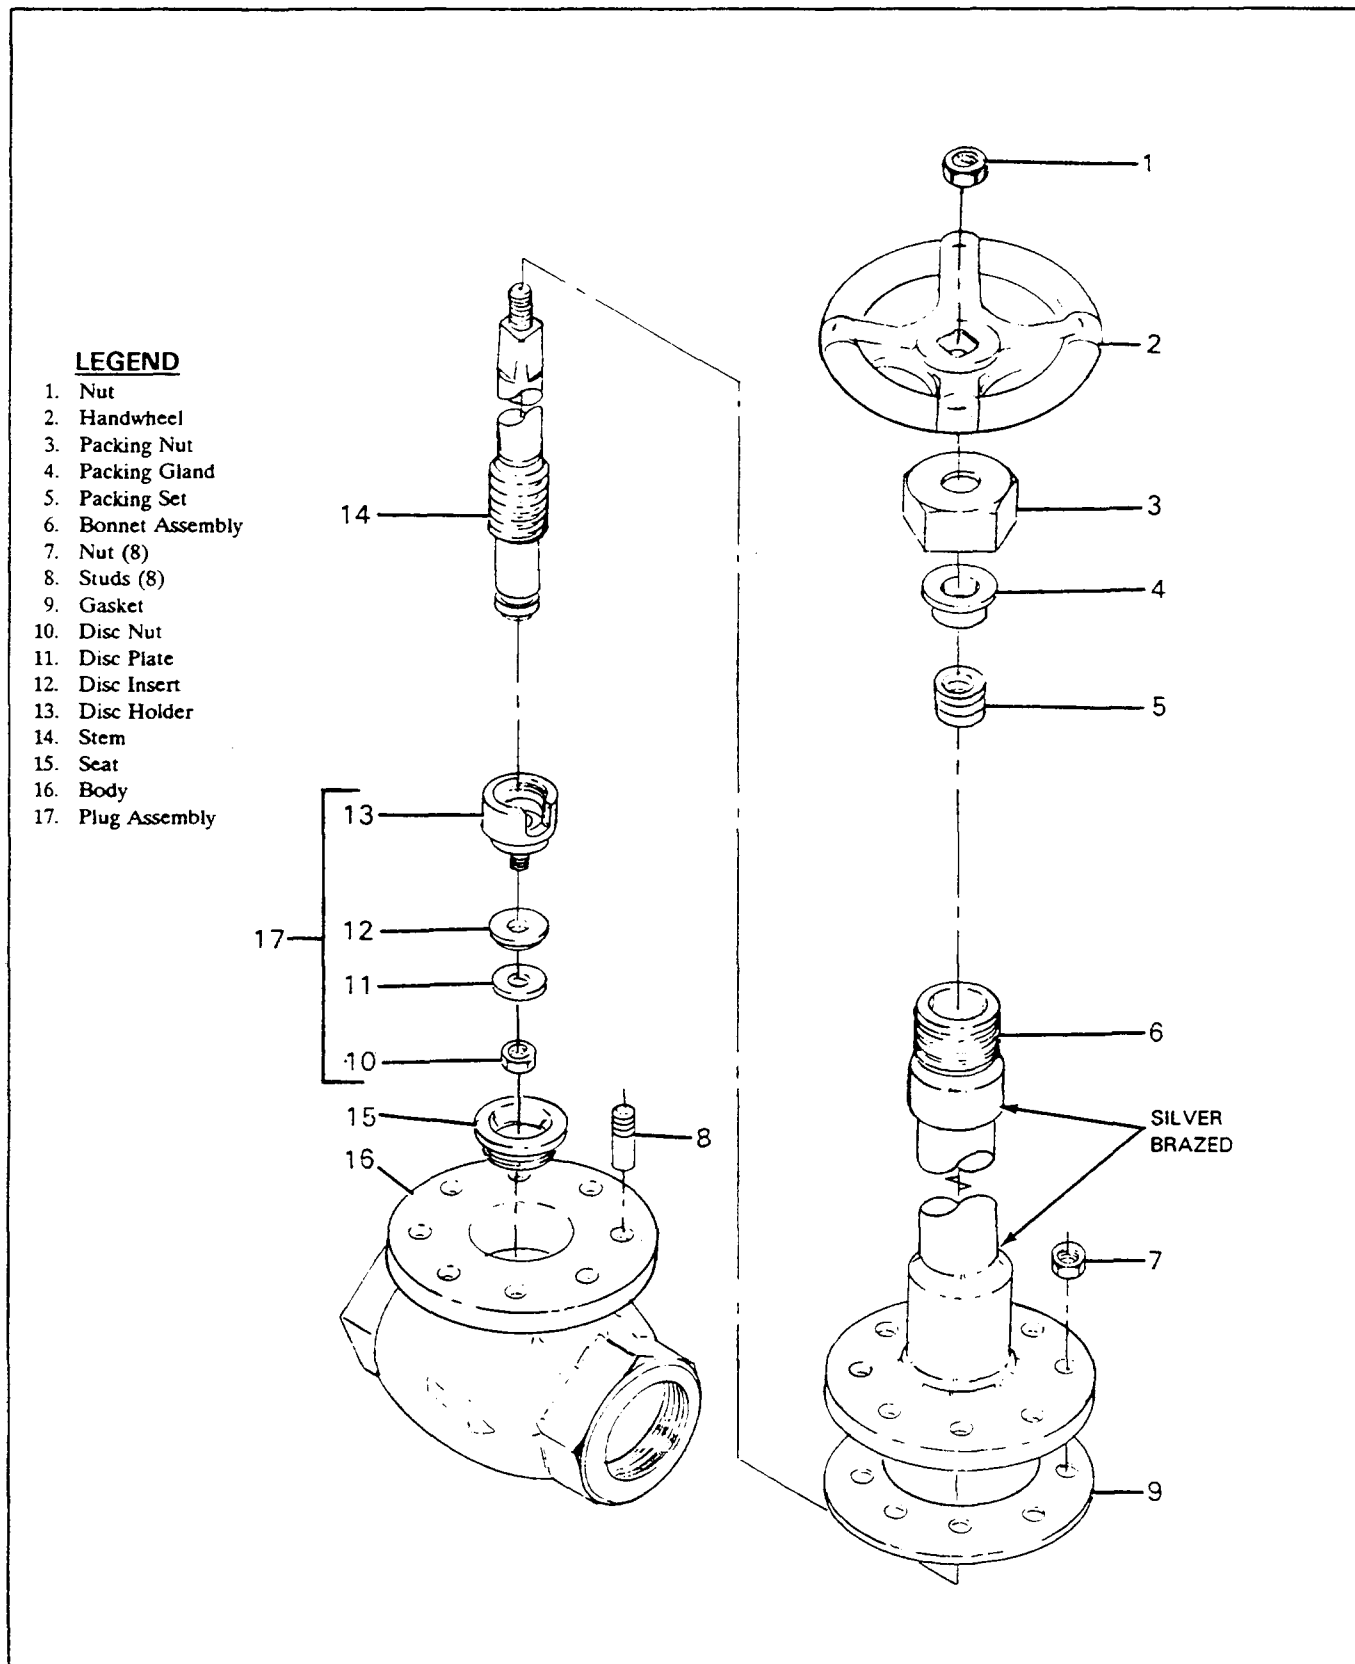

Figure 3-3. Globe Valve (V-8)
a. Open valve and remove handwheel nut (1) and remove handwheel (2).
b. Supporting the valve body (16) to prevent twisting, and using a suitable wrench, uncouple bonnet nut (6) from valve body and lift the stem and bonnet assembly away from body and cabinet.
c. Using suitable wrenches, and taking care not to damage components, turn packing nut (3) counter-clockwise until it is free of bonnet (7). Separate packing gland (4) from bonnet.
d. Holding the bonnet (7) stationary, turn the valve stem (14) clockwise until the threaded portion extends beyond the bonnet. The remainder may then be pulled through the bonnet and separated from it. This provides easy access to the packing set (5) which may now be extracted using a suitable hooked tool.
e. Holding the disc locknut (13) with an appropriate wrench, carefully disassemble, in sequence, the disc nut (8), disc plate (9), disc insert (10), disc holder (11), horseshoe ring (12) and disc locknut (13) from the stem (14).
f. Using the appropriate special tool, support the valve body (16) to prevent twisting and remove seat (15).
3-3.1.3. Globe Valve Disassembly (V-8). (See Figure 3-3). Access to components of the valve bonnet and stem assembly may be achieved by removing the handwheel and uncoupling the bonnet nuts (7) and lifting the bonnet and stem away from the valve body.